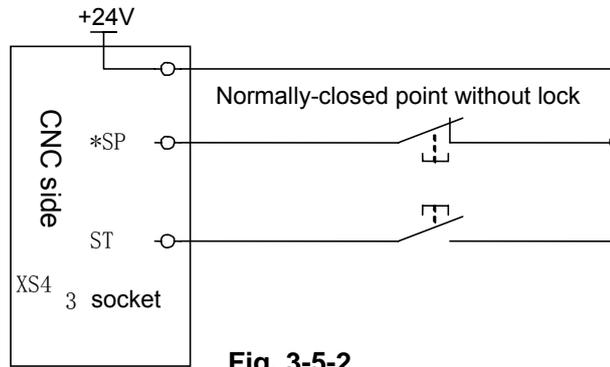

Fig. 3-5-2
*SP, ST external circuit is as Fig. 3-5-2.